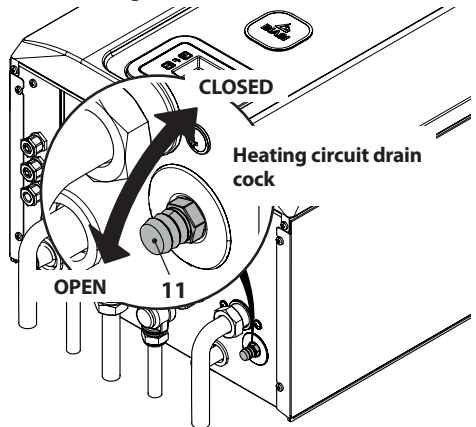

Figure 9.10
- Loosen the heating circuit drain cock 11 indicated in Figure 9.10.